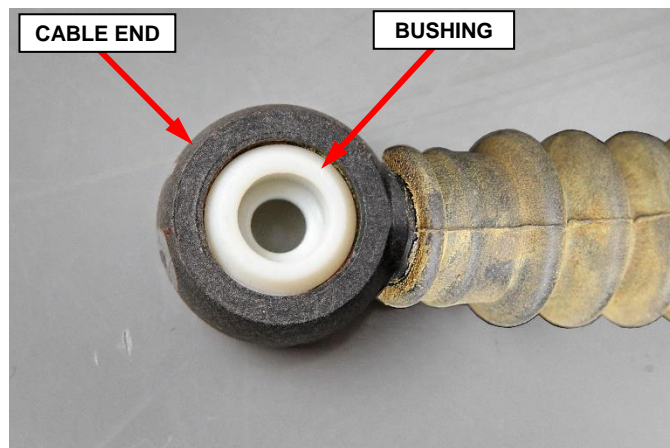

Figure 9 – New Bushing Installed
12. Ensure that the new bushing is fully installed into the cable end (Figure 9).